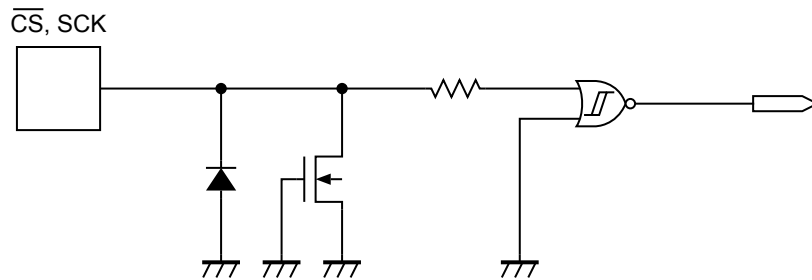

Figure 20  $\overline{\text{CS}}$ , SCK Pin
**Figure 20** and **21** show the equivalent circuits of input pins in the S-25C512A. A pull-up and pull-down elements are not included in each input pin, pay attention not to set it in the floating state when you design.